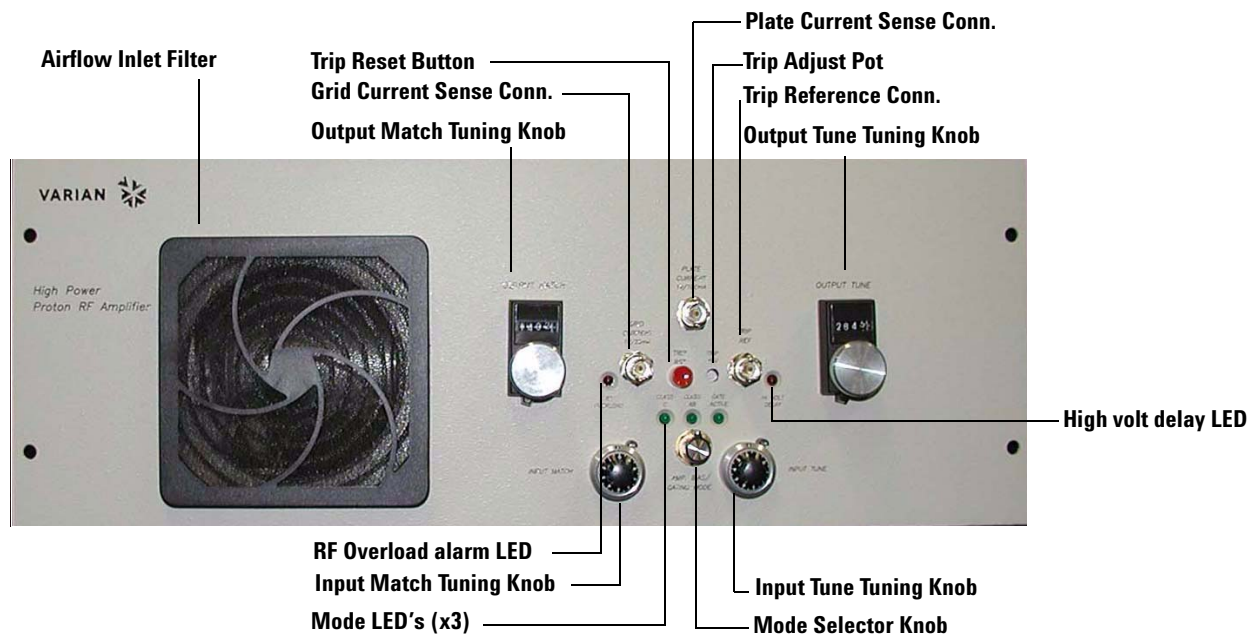
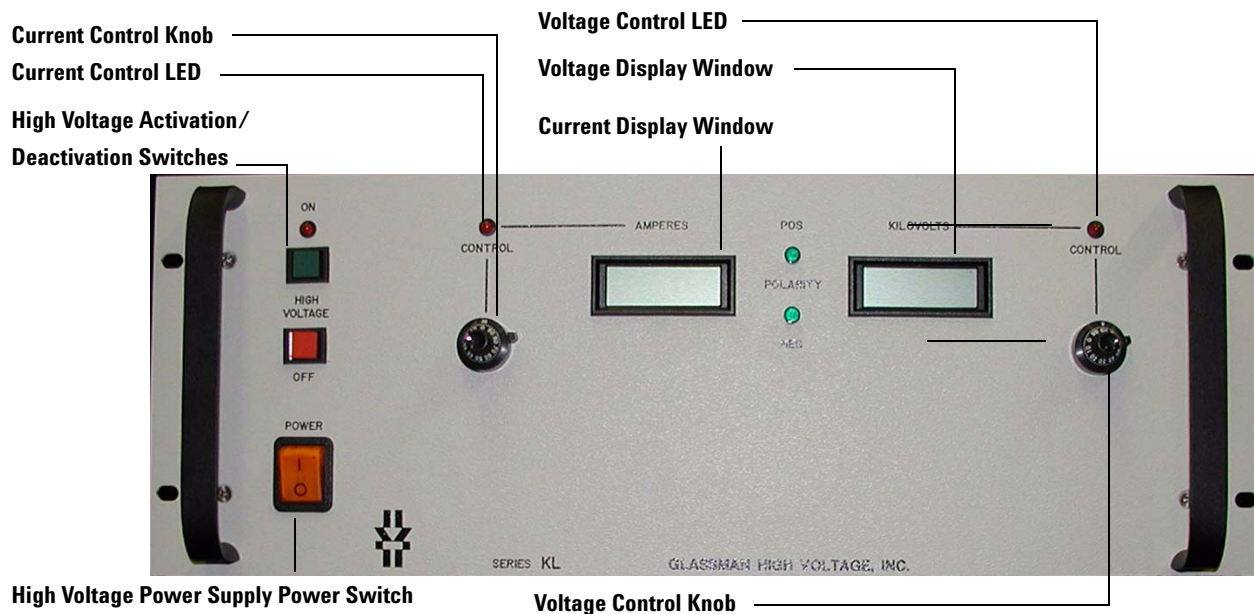

Figure 1 CMA RF deck front panel
Figure 3 Glasman high voltage supply front panel
- 3 Verify that the **RF overload**, **Hi Volt Delay**, and one of the class LED's are lit (Figure 1 on page 8). (The class LED that is lit should have the knob pointed toward it.)
- 5 Wait for approximately 3 min. and the HI Volt Delay LED should go out (Figure 1 on page 8) .
- 6 Press the **Trip reset** button (Figure 1 on page 8) to clear the RF overload fault, and to turn off the RF overload alarm LED.
- 1 Turn on the power switch (Figure 3 on page 10).
- 2 Turn on the high voltage switch (Figure 3 on page 10).
- 3 Adjust the current control knob to the maximum setting (Figure 3 on page 10).
- 5 Turn the class switch on the CMA amplifier (Figure 1 on page 8) to class C and note that the current on the high voltage (Figure 3 on page 10) goes from the .033 to .060 A reading to approximately .020 to .025 A. Reset the class back to class AB.
- 3 Set the tuning knobs (Figure 1 on page 8) to the recommended rough tuning setting as indicated on the included test results sheet.
- 5 Adjust input power to approximately 20 W, 10 ms pulse width at 10 ms delay (Figure 1 on page 8).
- 6 Adjust all **four tuning knobs** to optimize output power (Figure 1 on page 8). An effective strategy is to first independently adjust both input tune and input match settings to optimize power output and then interactively tune. For example, displace the output load setting away from optimum and readjust the output tune. If power is increased, repeat. If it is reduced, adjust the output load setting in the opposite direction and readjust the output tune.
- 12 Disconnect the 50-ohm load and wattmeter setup from the CMA amplifier and connect the Trip Reference Connection switch (Figure 1 on page 8) through the supplied cable.
- 13 Reattach the 50-ohm load and wattmeter setup to the output of the Trip Reference Connection switch (Figure 1 on page 8).
- 15 Retune CMA amplifier through the Trip Reference Connection switch (Figure 1 on page 8) to optimize output power. (Approximately 1 to 2 db less than maximum rated power output of the CMA amplifier).